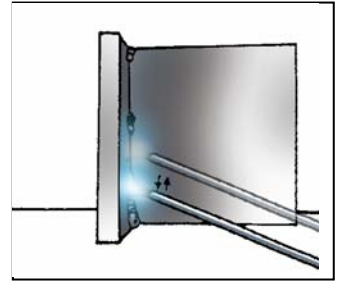

Figure 4
- c. The electrode can be moved ahead, out, and back to the weld pool to help control the temperature of the pool. The arc is not broken in this movement. Refer to Figure 4.